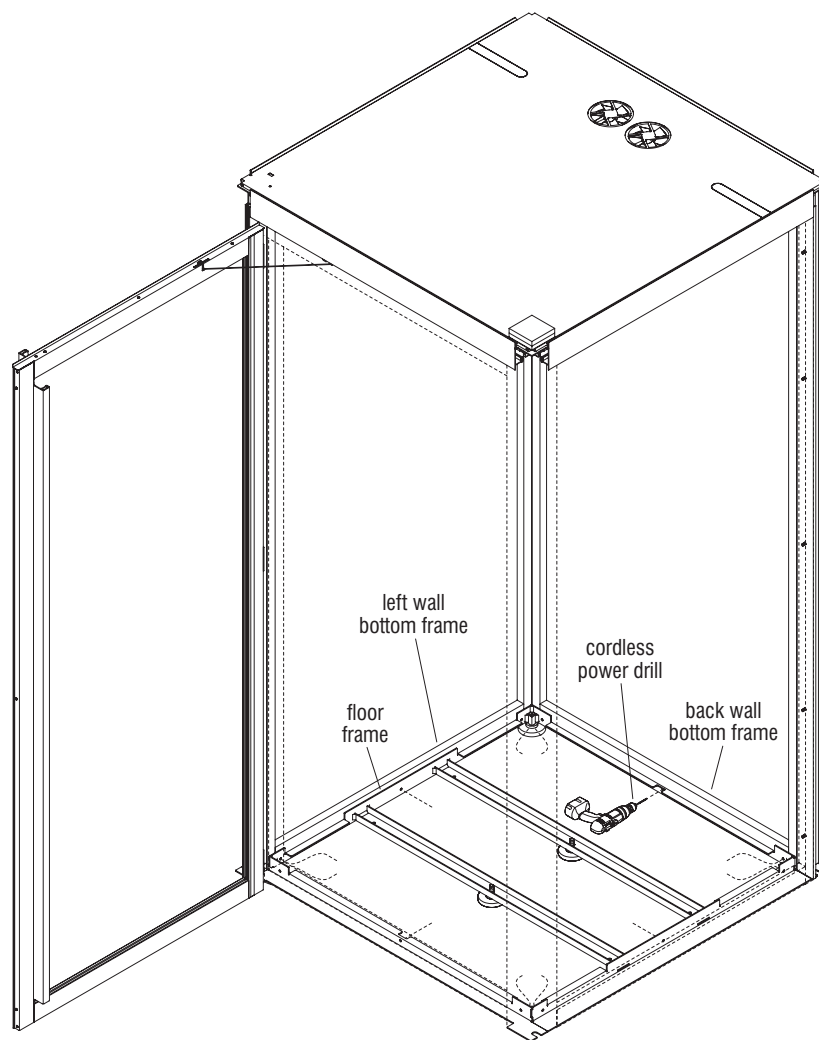

Figure 20
1. Using a $\frac{7}{64}$ " drill bit and cordless power drill, carefully bore a pilot hole at the center of each mounting location on the floor frame into the bottom of each wall frame. Drill only through the inside wall of frame (Figure 20).